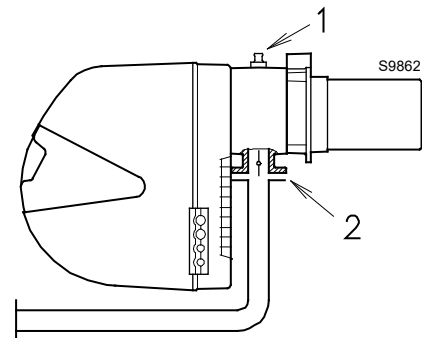

Fig. 39
Gas pressure measured at test point 1)(Fig. 39), with:
- subtract the combustion chamber pressure from the gas pressure measured at test point 1)(Fig. 39).
Gas pressure at test point 1)(Fig. 39) = 6.4 mbar
To calculate the required gas pressure at test point 1)(Fig. 39), set the maximum output required from the burner operation:
- Read off the pressure at test point 1)(Fig. 39) on the right in column 1.
pressure required at test point 1)(Fig. 39).